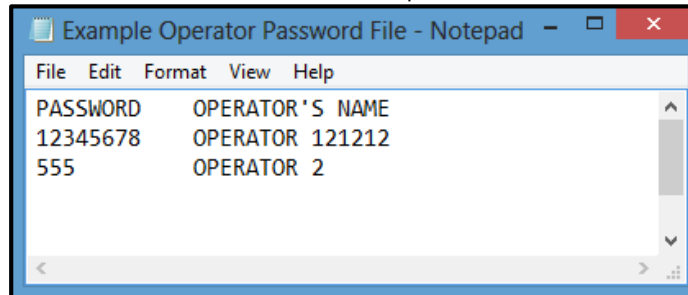

Figure 6.7-1: Example Operator Password File
2. Enter the first line “PASSWORD\_ \_ \_ OPERATOR’S\_NAME”. See Figure 6.7-1 for an example of this first line.
4. Enter the first password and operator’s name on the second line. Example: “12345678\_ \_ \_ OPERATOR\_121212” (Figure 6.7-1).
5. Enter more passwords and operator’s names if more than one is needed. Example with a shorter password: “555\_ \_ \_ \_ \_ OPERATOR\_2” (Figure 6.7-1).